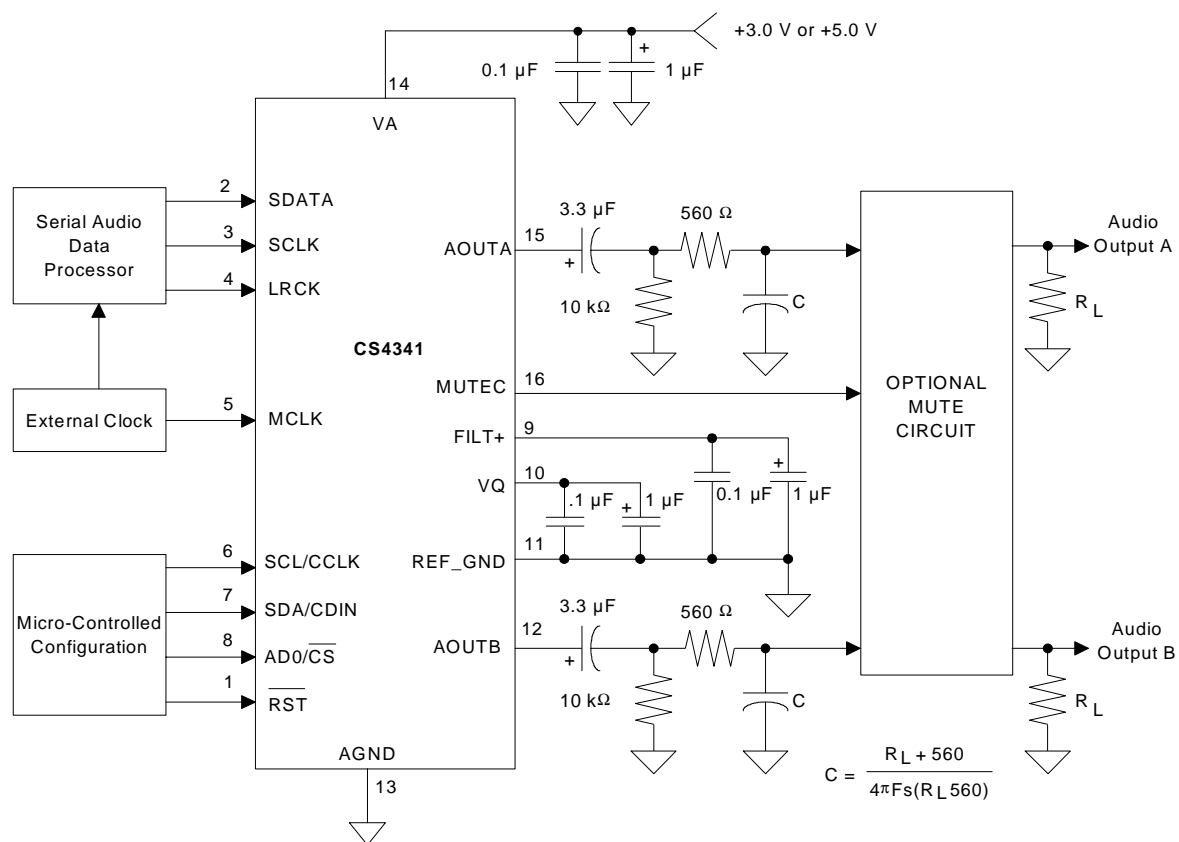

Figure 16. Typical Connection Diagram
15. Valid with the recommended capacitor values on Filt+ and VQ as shown in Figure 16. Increasing the capacitance will also increase the PSRR.
As with any high resolution converter, the CS4341 requires careful attention to power supply and grounding arrangements if its potential performance is to be realized. Figure 16 shows the recommended power arrangements, with VA connected to a clean supply. If the ground planes are split between digital ground and analog ground, REF_GND & AGND should be connected to the analog ground plane.